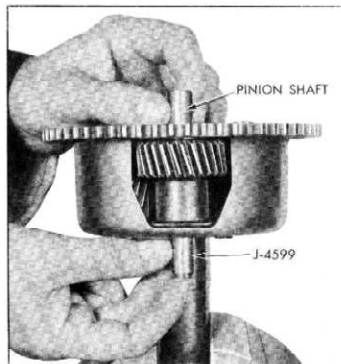

Fig. 113—Removing Planet Pinion
4. Starting with a short planet pinion, and using a soft steel drift, drive on the lower end of the pinion shaft until the pinion shaft is raised above the press fit area of the output shaft flange. Feed tool J-4599 into the short planet pinion from the lower end (fig. 113), pushing the planet pinion shaft ahead of it until the tool is centered in the pinion and the pinion shaft is removed from the assembly.